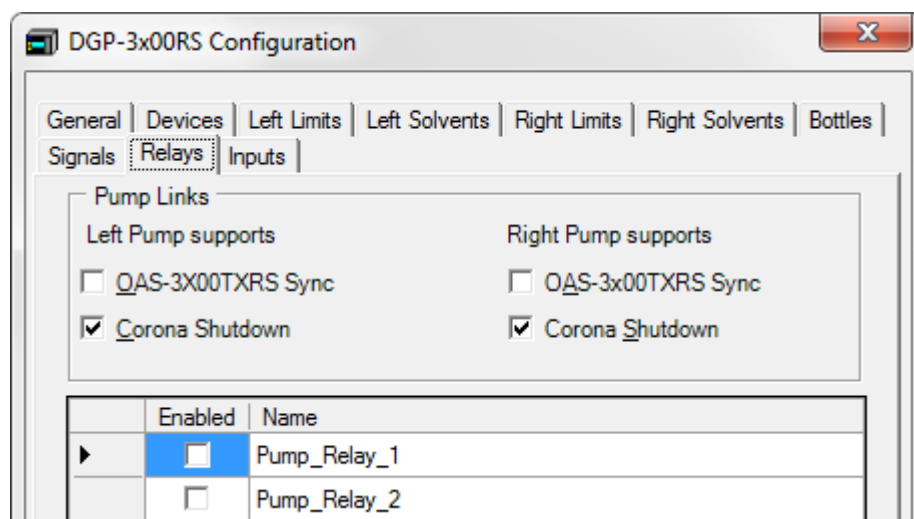

Fig. 53: Relays page (here for a DGP-3600 pump)
- ◆ In the Chromeleon Server Configuration program, in the Properties dialog for the pump, on the **Relays** page, in the **Pump Links** group, the pump is selected by the **OAS-3x00TXRS Sync** check box (→ Fig. 53, page 100).